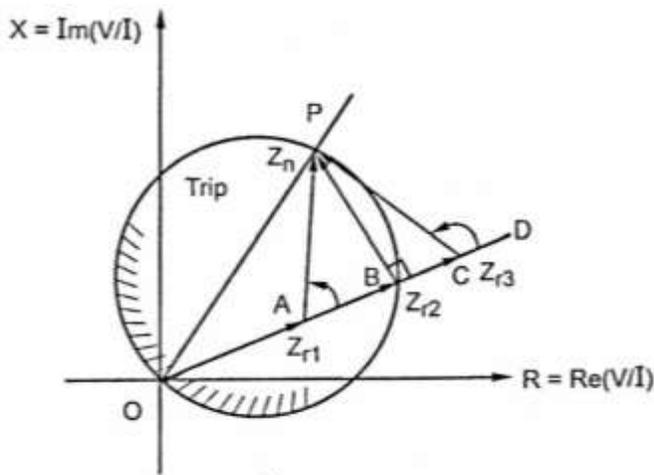

Fig.4.20. Synthesis of mho relay using cosine type phase comparator
- Figure 4.20 shows the synthesis of a mho relay using a phase comparator. Now, let the impedance seen by the relay be Z_{r1} represented by point A in Figure 4.20. Since the impedance phasor lies within the trip region, the relay must issue the trip output. It can be easily seen from the Figure that the phasor $(Z_n - Z_{r1})$, represented by line AP, leads the phasor Z_n by an angle which is definitely less than 90° .
- The Figure 4.20 shows that as the impedance seen by the relay moves towards the boundary between the trip and restrain regions, the angle between $(Z_n - Z_r)$ and Z_r moves towards 90° .